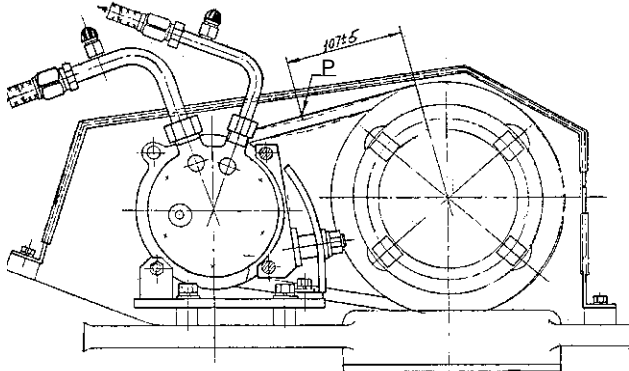

Fig. 40 Adjustment of the tension of belt of the compressor drive
2. During execution of M-1, M-2, M-3 check the belt tension of the compressor drive and, if necessary, make adjustments. The belt deflection (Fig.40) when a force of $4 \pm 0.2 \text{ kg}$ is applied at point "P" shall be within 9...14 mm.